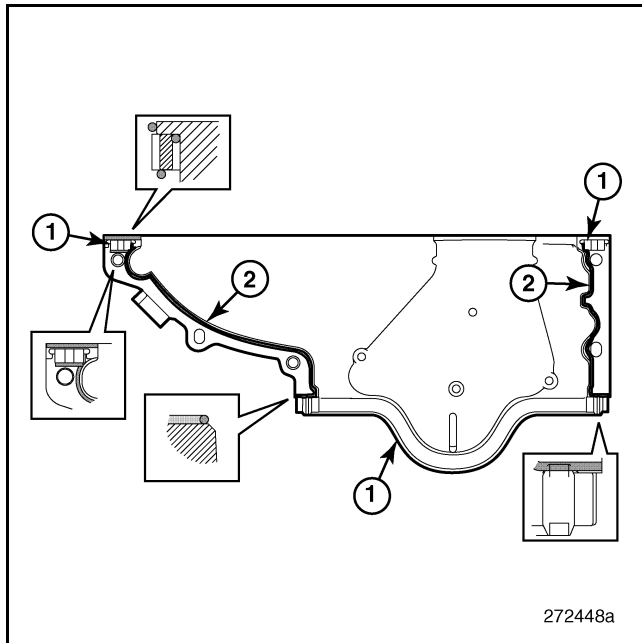

Figure 549 — Timing Cover Seals and Sealant Application
18. Apply a 2 mm (5/64 inch) bead of MACK-approved sealant on the timing gear cover mounting surface and install **new** rubber seals (Figure 549).